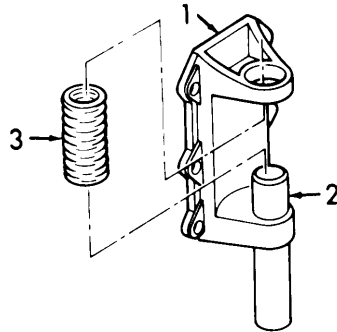

Figure 3-25. Kingpin, Installation.
f. *Reassembly.* (Refer to Figures 3-25, 3-26, and 3-27).
- (1) Install kingpin (2, Figure 3-25) through bottom hole of bracket (1) so that one inch of kingpin extends from top of hole.
- (2) Install one dust cover (3) on part of kingpin (2) extending into bracket (1). Compress dust cover.